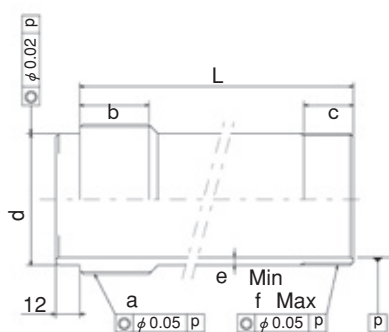

Fig.14
The dimension L in Fig.14 is determined from the distance A between the cylinder adapter and the back plate.
- Keep the dimension e and the dimension f in Fig. 14 for the draw pipe and a material with the tensile strength 380MPa (38kgf/mm2) or more must be used.